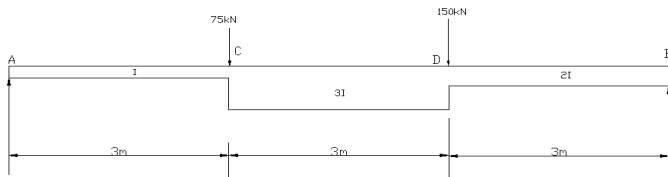

FIG 2
2. Determine the slope and deflection at the free end of a cantilever beam shown in Fig. 2(a) by moment area method (Table $EI = 8500 \text{ kN-m}^2$).
3. Determine the slope at A and deflection at B and C. Also find the deflection at mid span point simply supported beam shown in Fig. 2(b). Take $E = 200\text{GPa}$ and $I = 7.0 \times 10^7 \text{ mm}^4$.
7. Using conjugate beam method for the beam shown in Fig. 2. Find the slopes and deflections at A, B, C, and D. Given $E = 2 \times 10^5 \text{ N/mm}^2$ and $I = 3 \times 10^{10} \text{ mm}^4$
1. Using conjugate beam method for the beam show in fig 2. Find the slopes and deflections at A, B, C & D. given $E=2 \times 10^5 \text{ N/mm}^2$ and $I=3 \times 10^{10} \text{ mm}^4$.